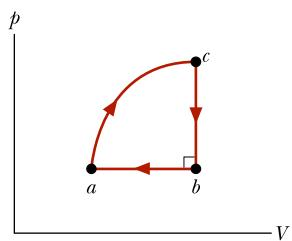

Figure 18.31 Problem 75.
- 75** Figure 18.31 displays a closed cycle for a gas. From  $c$  to  $b$ ,  $40 \text{ J}$  is transferred from the gas as heat. From  $b$  to  $a$ ,  $130 \text{ J}$  is transferred from the gas as heat, and the magnitude of the work done by the gas is  $80 \text{ J}$ . From  $a$  to  $c$ ,  $400 \text{ J}$  is transferred to the gas as heat. What is the work done by the gas from  $a$  to  $c$ ? (Hint: You need to supply the plus and minus signs for the given data.)